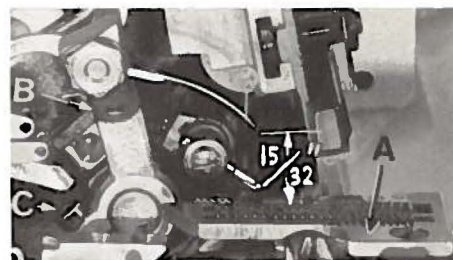

Fig. 3
With throat plate assembled in position, needle should center in the front end of needle slot. When needle is at high position, needle point should be set $15/32$ inch above the throat plate (A, Fig. 3). To align needle or set the height above the throat plate, move needle driving arm (B, Fig. 3) by loosening clamp screw (C). After needle has been properly set, tighten clamp screw and remove throat plate.